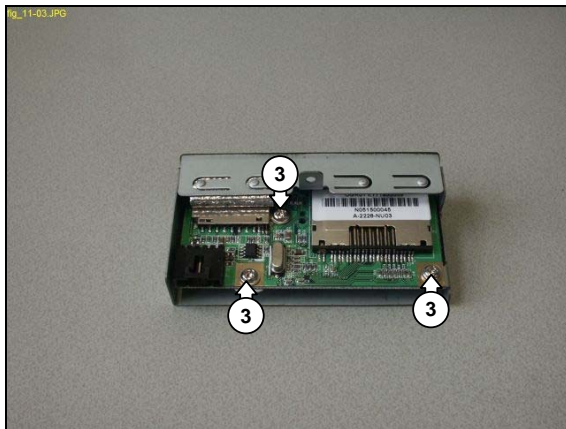

Figure 12.11-3
2. Remove the 3 mounting screws (3) from the card reader board. See Figure 12.11-3.